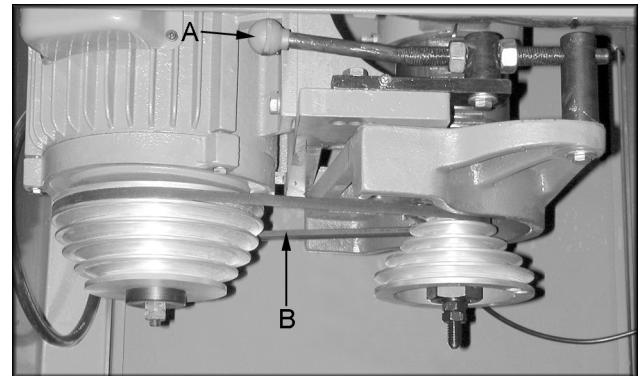

Figure 15
2. Open front cabinet door and pull belt tension lever (A, Figure 15) towards you to loosen belt tension.
3. Move the belt (B, Figure 15) to the desired position on the pulleys.